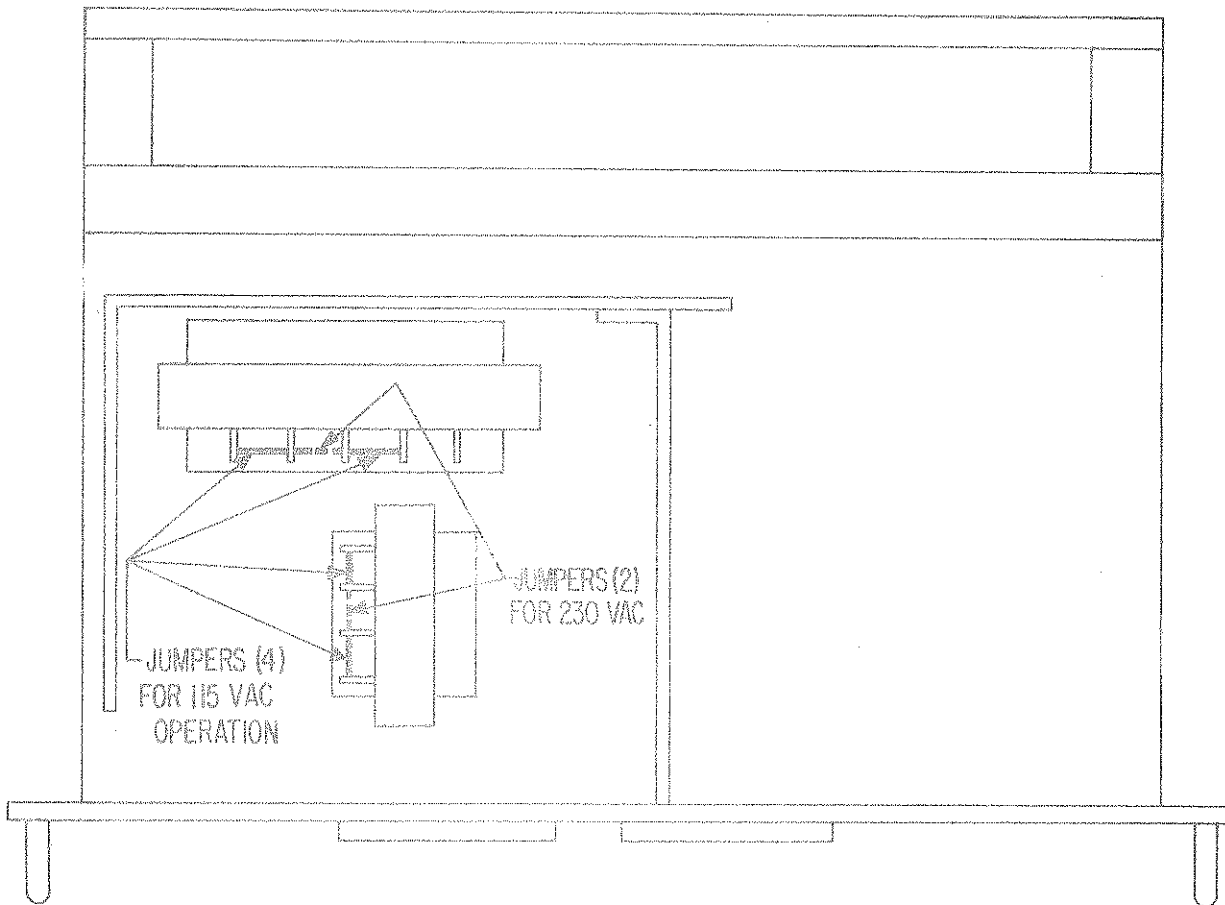

FIG. 2-1 TRANSFORMER CONNECTIONS FOR 115V A-C AND 230V A-C POWER LINE OPERATION. (MODEL BHK 1000-0.2).
- 2-6 This power supply is normally supplied for operation on a single phase, nominal 115V a-c line. For conversion to 230V a-c line operation, refer to FIG. 2-1. For a-c input current requirements, see TABLE 1-1.
- a) Connect power supply to 115V a-c line. Refer to FIG. 2-1 for 230V line operation.